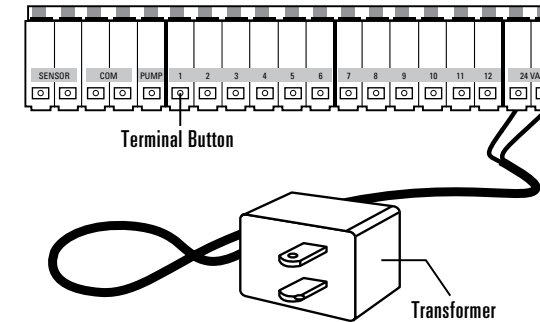

Figure 6: Connecting the Transformer
- Find the two sockets at the bottom of the docking port labeled "24VAC." (See Figure 6)